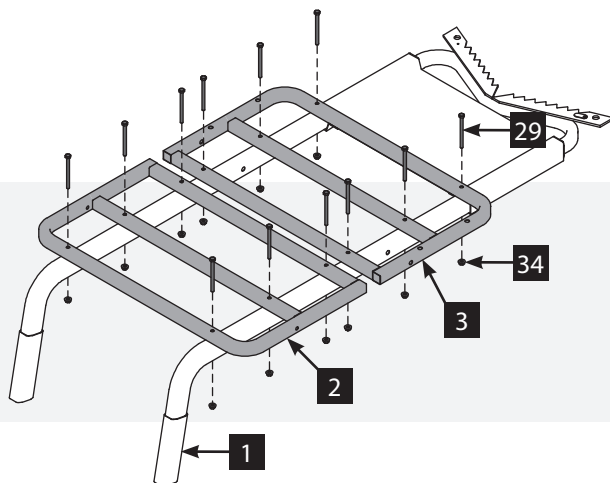

FIGURE 2
2. Tighten hardware securely at this time. Be sure not to over tighten or crush tubing. Slide the TearTuff™ mesh shelf (23) all the way back towards the tree blade (4). Mesh is intended to cover the previously tightened hardware.
3. Attach the front platform (2) and rear platform (3) to the two J-tubes (1) using twelve 1/4-20 X 3in bolts (29) and 1/4in flange locknuts (34). **SEE FIGURE 2.**